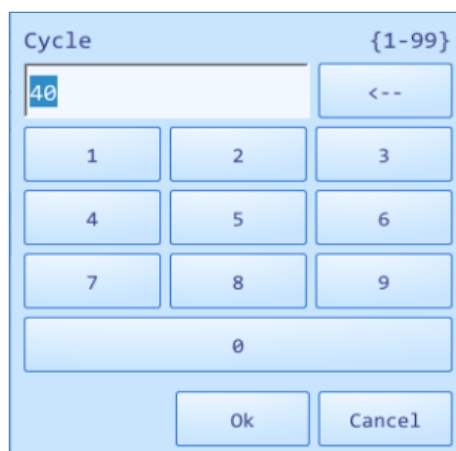

Figure E-3.2. Cycle Edit Box
- User can select a certain stage and press its cycle number in the corresponding **Cycle** column, the cycle edit box will pop up as shown in figure E-3.2.